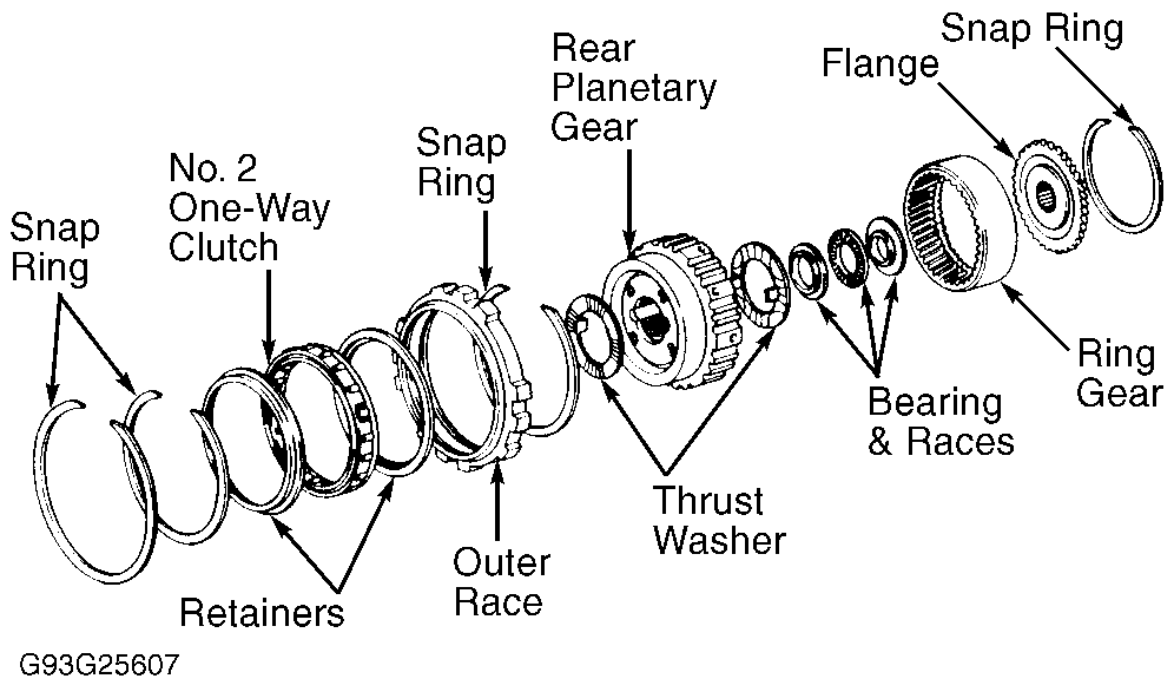

Fig. 41: Exploded View Of Rear Planetary Gear
2. Remove thrust washers from both sides of planetary gear. Separate No. 2 one-way clutch and planetary gear. Remove snap rings and side retainers from No. 2 one-way clutch. Note position of No. 2 one-way clutch and remove from outer race. See Fig. 41 .